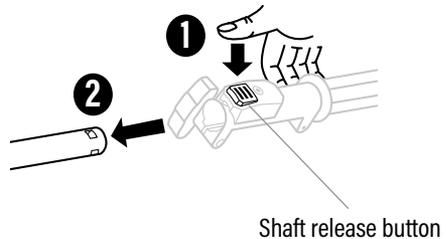

Fig. 4B
3. Press the shaft release button (Fig. 4B, 1) and then, pull the attachment shaft (Fig. 4B, 2) out from the powerhead shaft to remove it.